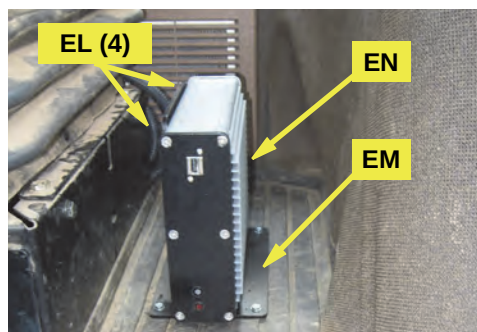

Figure 1b: Installed ECU
- b. Using mounting hardware **EL** attach ECU **EN** to bracket **EM**. Face the wire connections to the rear of the machine (Figure 1b).